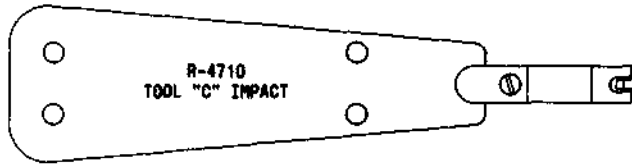

Fig. 22—R-4710 C Impact Tool
2.24 R-4710: The R-4710 C impact tool (Fig. 22) has an impact force in the range of 18 to 21 pounds. The available blades are 4710 and 4710A. The 4710 blade is used to seat wire ends. The 4710A blade is used to seat and cut off wire ends. This tool is used for terminating wires in the 94-type connecting block.